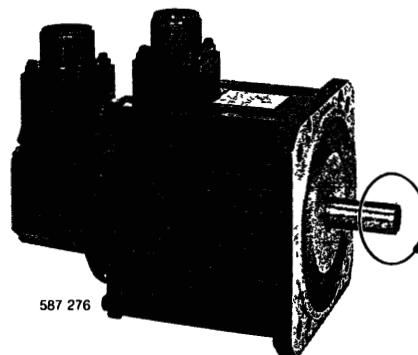

Fig. 9.1 Motor Forward Running
- When the reference voltage is positive, the motor rotates forward (counterclockwise viewed from drive end-output shaft) (Fig. 9.1).